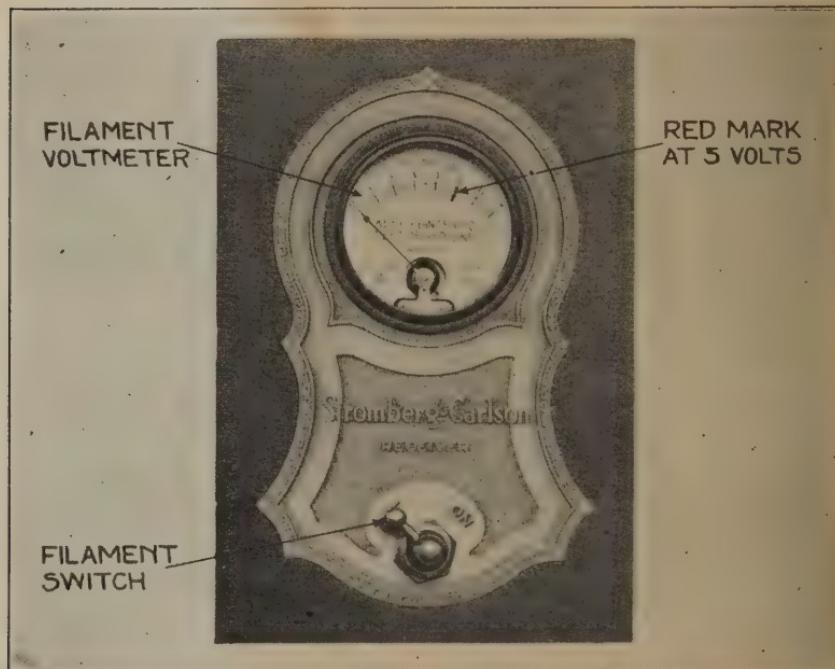

Fig. 18—Filament Voltmeter and Filament Switch
The VOLTAGE CONTROL knob, located at the right of the voltmeter, Fig. 18, regulates the voltage on the filaments of the vacuum tubes, which is indicated by the voltmeter and should never be greater than five volts. To insure correct operation of this control, the voltmeter is provided with a "red" mark at the 5-volt division and the inscription on the face as follows:
The FILAMENT SWITCH is the two-position key located immediately below the voltmeter in the center of the panel as shown in Fig. 1 and more in detail in Fig. 18. This switch is the only means provided for shutting off the set. Visual indication, as to whether the battery is connected or not, is given by the position of the switch lever and the markings "OFF" and "ON," also by the position of the voltmeter pointer, the latter returning to "O" when the receiver is disconnected.
Once a station is selected and the volume control is set to give the desired loud speaker reproduction, no further manipulation is required to stop the receiver operating and later to start with the same station, other than the turning of the filament switch Fig. 18, to "OFF" to stop and to "ON" to resume the program. This switch also will connect "A" and "B" socket power units automatically, when the No. 301-A Power Switching Relay is installed as described in Section 21.
**First**—Regulate the voltage on the vacuum tube filaments by first turning the two knobs marked VOLUME CONTROL and VOLTAGE CONTROL, Fig. 1, in a counter-clockwise direction until the stops are reached. Then connect the battery to the tube filaments by moving the switch lever, found directly below the voltmeter, Fig. 18, to the ON position. Finally turn the VOLTAGE CONTROL knob in the direction of the arrow until the voltage pointer is on (or slightly to the left of) the red mark, indicating 5 volts.
**Seventh**—When through using the radio receiver, be sure to throw the lever of the switch, located below the voltmeter, Fig. 18, to the "OFF" position. This cuts off all the battery from the tubes and prevents waste of battery current as well as prolongs the life of the vacuum tubes. The voltmeter pointer always returns to "O" when the battery circuit is disconnected by the switch, therefore, the position of this pointer serves as a visual indicator of the connection or disconnection of the battery as well as serving as a measuring instrument.